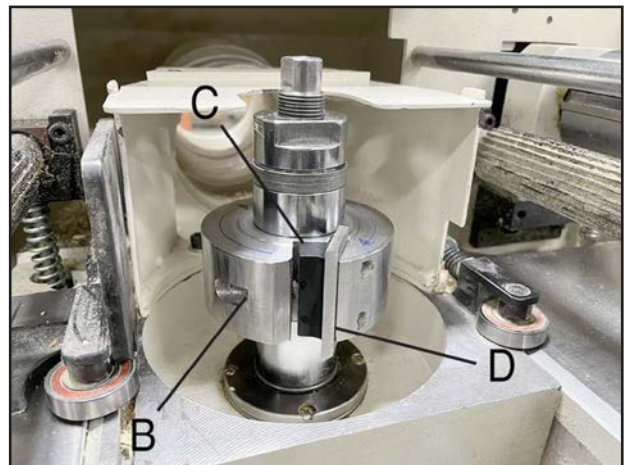

**Figure 24.** Location of gib, knife, and gib screw.
4. Loosen gib screw (B) until you can remove gib (C) (see **Figure 24**) from cutterhead.
5. Replace knife (D) (see **Figure 24**), install gib (C), and tighten gib screw (B) until knife is secure.